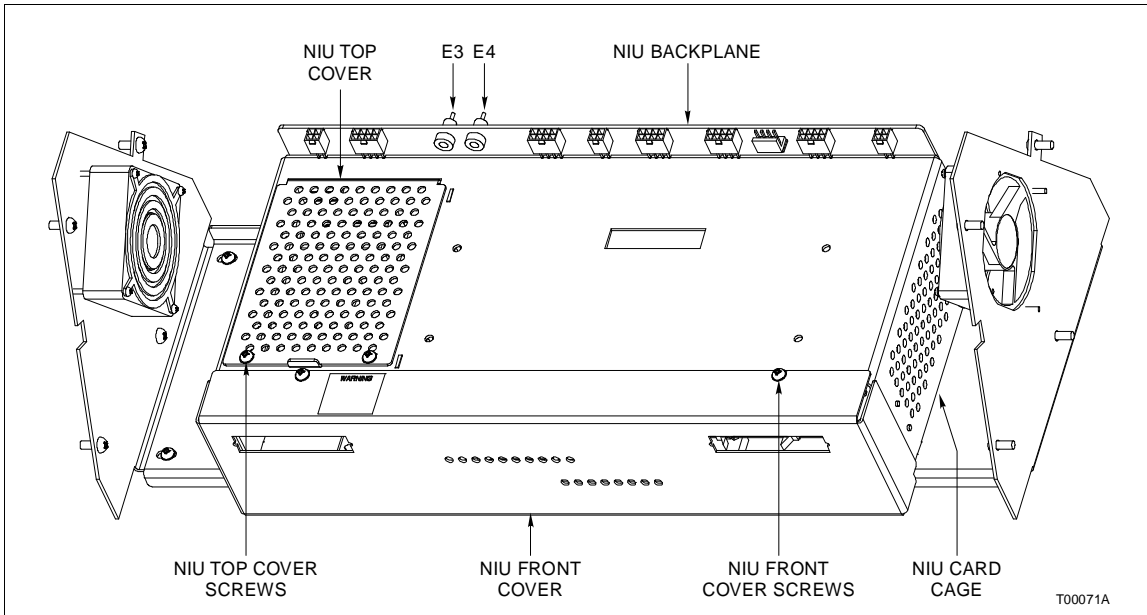

Figure PR63-1. NIU Card Cage with Covers Installed
3. Use the Phillips head screwdriver to remove the two NIU front cover screws (Fig. PR63-1).